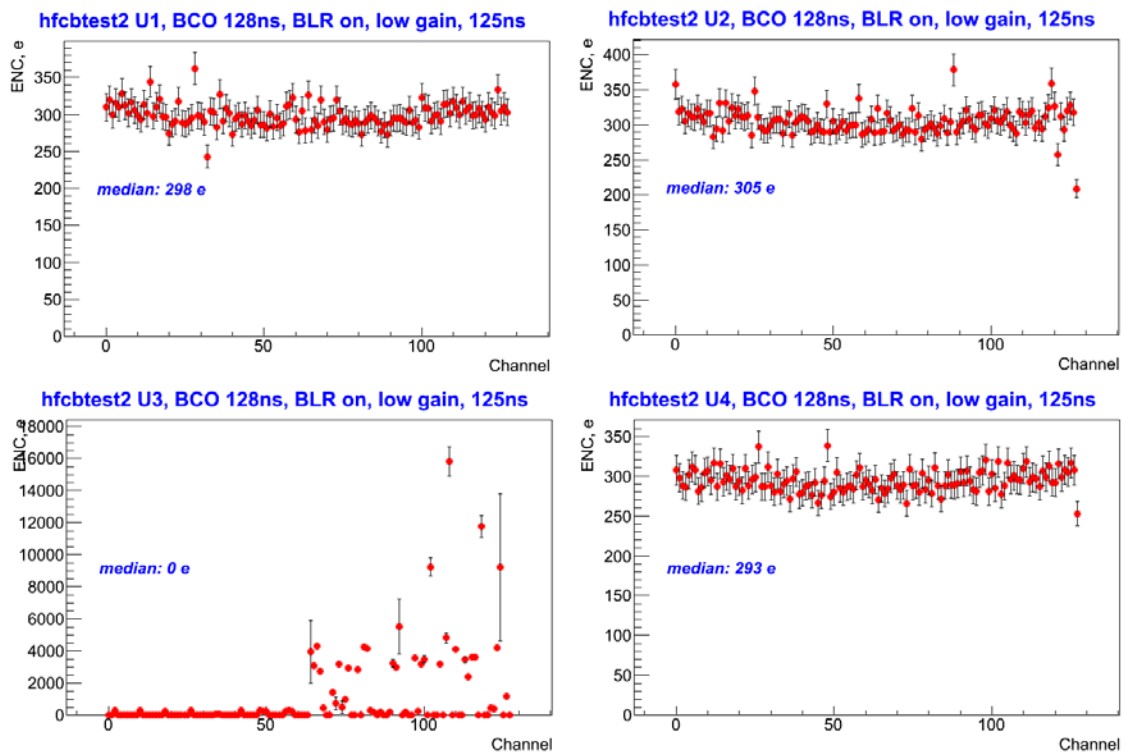

Fig. 1 Results of gain scan noise of four FSSR2 chips for one HFCB. Chips should have ~300e noise. Chip U3 failed register test and has high noise level.
- * Ran gain scan, results for noise plotted in Fig. 1.
- * Looked into CPU usage by cRIO in entire project. Gas shed usage was 60–95% (Fig.1).